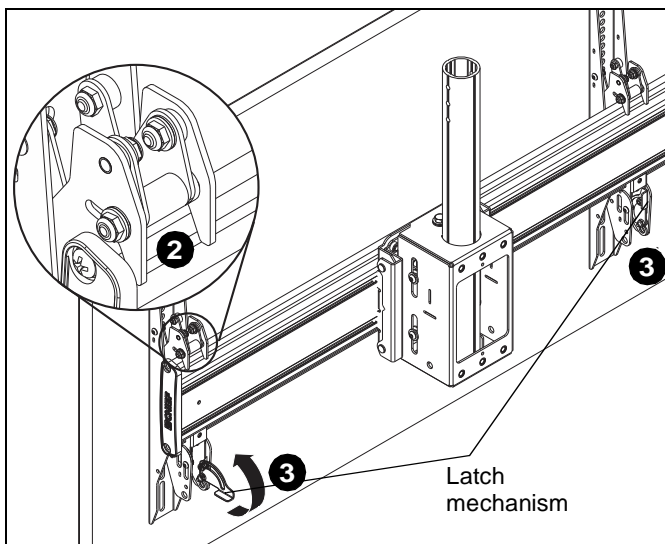

Figure 9
1. Ensure that the latch mechanisms on interface brackets (Q) are already lowered. (See Figure 9)
2. While supporting both sides of display, lower display onto center of ceiling mount, hooking top of interface brackets onto front of ceiling mount. (See Figure 9)
3. Raise the latch mechanism on both interface brackets to lock bracket in place. (See Figure 9)
6. While supporting both sides of second display, lower second display onto one side of first display, hooking top of interface brackets onto front of mounting rail. (See Figure 9)
8. While supporting both sides of third display, lower third display onto opposite side of first display, hooking top of interface brackets onto front of mounting rail. (See Figure 9)